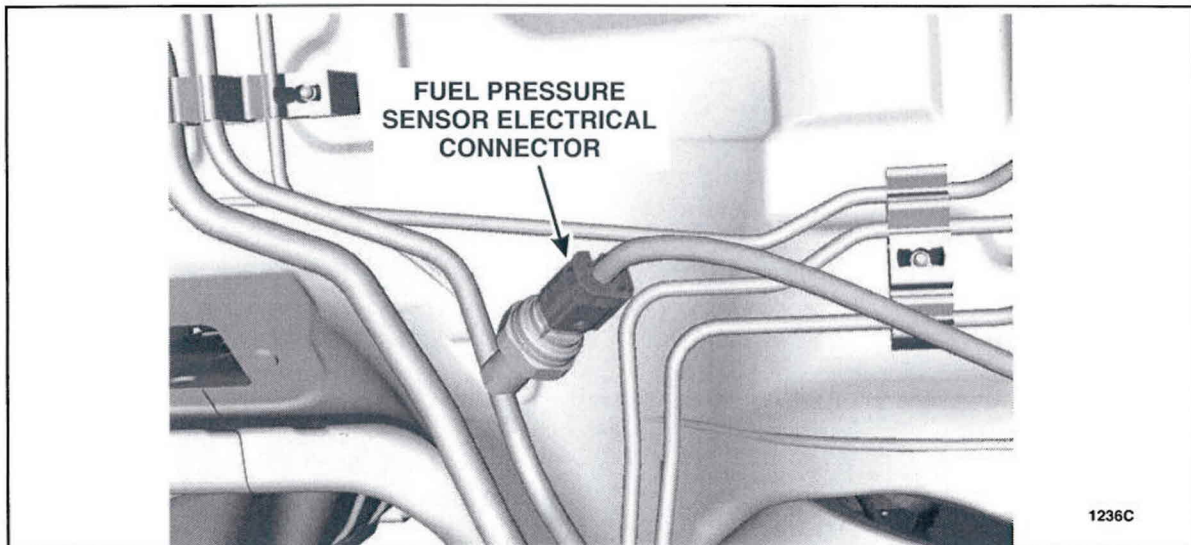

FIGURE 1
6. Disconnect the fuel pressure sensor electrical connector. See Figure 1.
11. Connect the fuel pressure sensor electrical connector. See Figure 1.